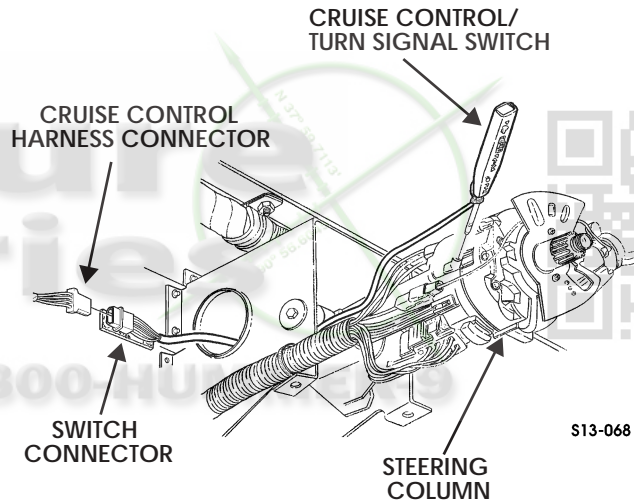

Figure 13-75: Cruise Control/Turn Signal Switch
2. Disconnect switch connector from cruise control harness connector (Figure 13-75).
1. Install switch in steering column (Figure 13-75).